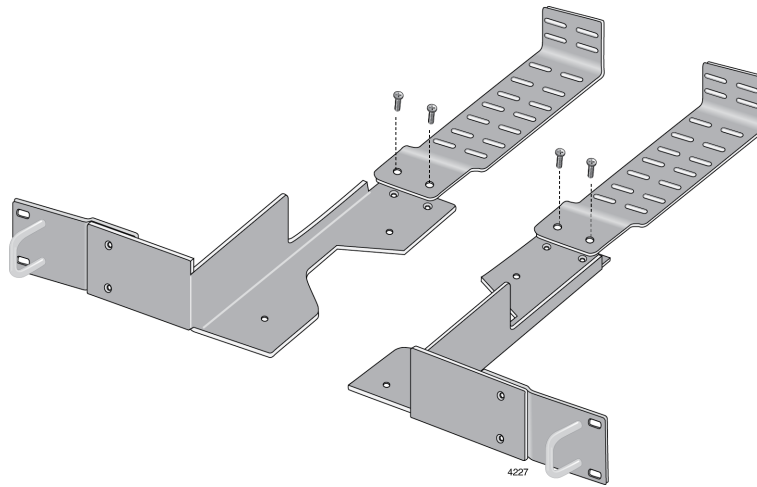

Figure 36. Attaching Cable Tray to Plates
4. Attach the cable bracket to the unit that you assembled in Step 3 with M4x6mm screws using a Phillip-head screw driver as shown in Figure 36.